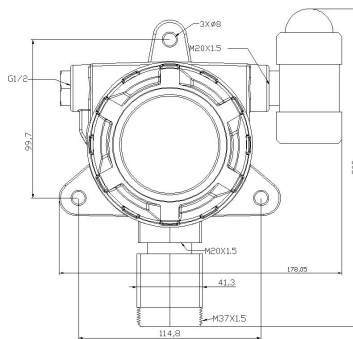
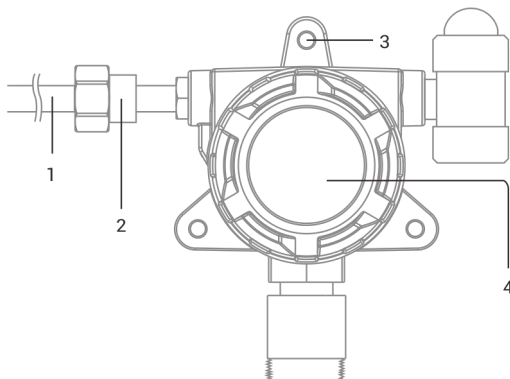

Fig 1. appearance
Fig. 3
The detector's appearance shows as the above in Fig1., there are installing holes behind the device. Users only need to connect relative equipment at the corresponding port according to the operation manual, after DC 24V connected, it will work properly.
**Method 1.** If there are transverse or vertical siphon with G1/2 Screw thread in installed places, please connect the two terminals of the detector (Like the “Line in and out hole” with) with pipe screw thread nut (“2” in Fig. 3), then fix it up.
**Method(Wall-hung method):**If the user need to install the detector on the wall, please choose an appropriate metope according to the transmitter structure dimension in Fig 1, then fix the transmitter using three pieces of M8 bulge bolts to fix the detector in the corresponding installed orifice(As shown “3” in the Fig.3 and Fig. 4). Then choose transferring tie-in in the need of the customer, as shown in Fig.3; if not, as shown in Fig.4, fit it up and it’s ok.